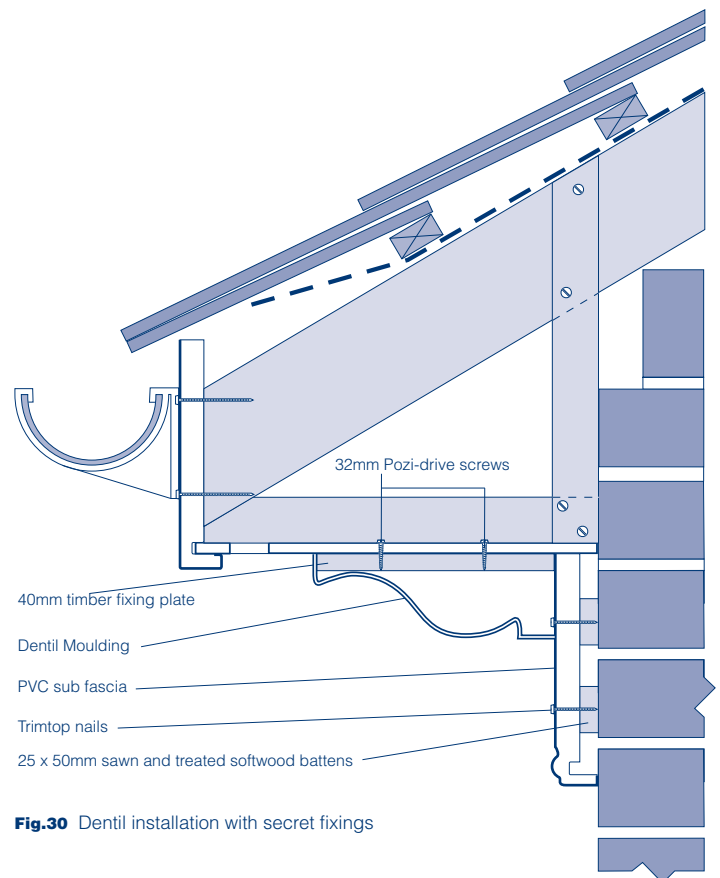

Fig.30 Dentil installation with secret fixings
- A strong mechanical secret fix may be achieved through the soffit into the timber or pre-moulded PVC plates using stainless steel screws. (Fig 30). This application is performed in newbuild prior to the installation of the roof covering, or in renovation when the first two rows of tiles have been removed.